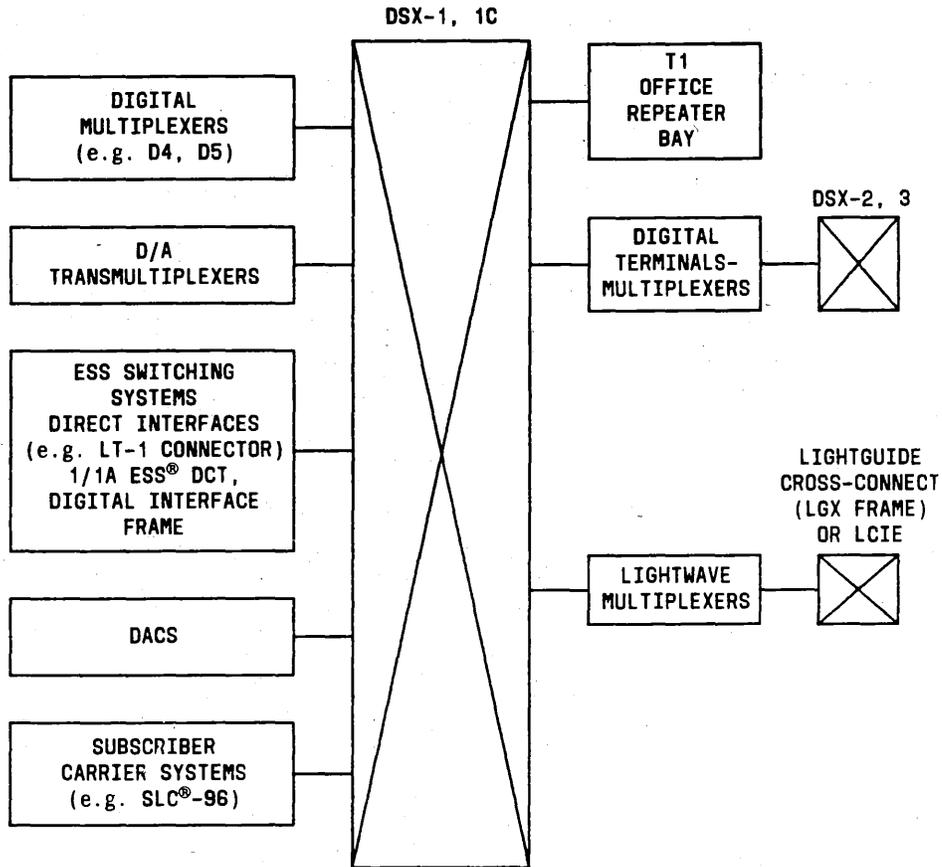

Fig. 8—DSX-1/1C Digital Terminations
4.01 Figure 8 shows some of the equipment types that may connect to a DSX-1 or DSX-1C. Each